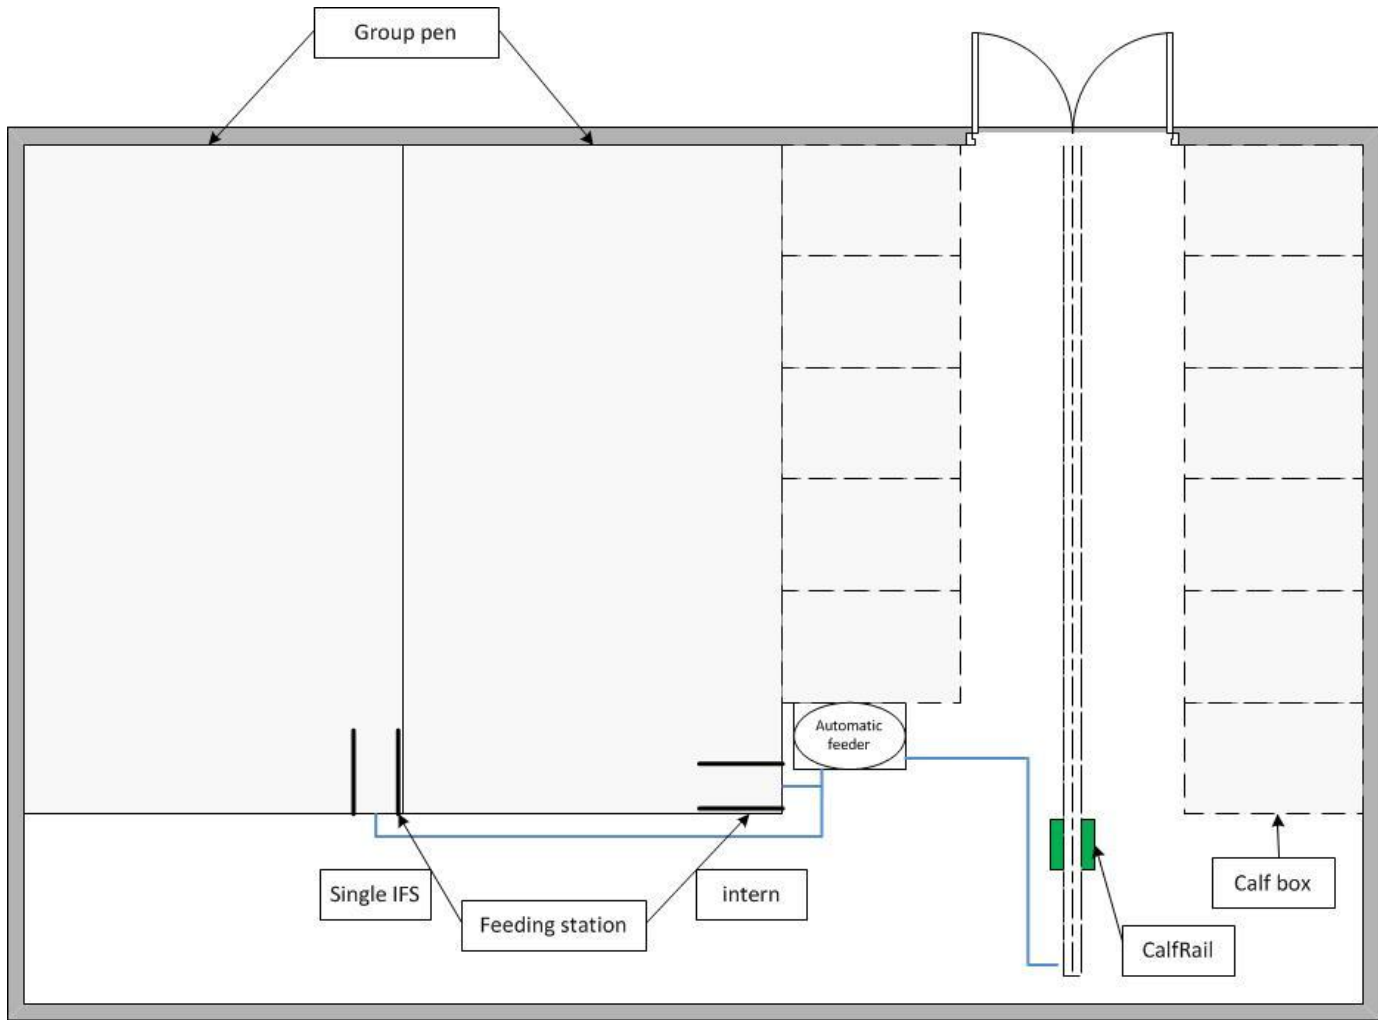

Figure 6: Farm with a combination of a CalfRail and two groups with one automatic feeder
- Figure 6: Farm with a combination of a CalRail and two groups with one automatic feeder